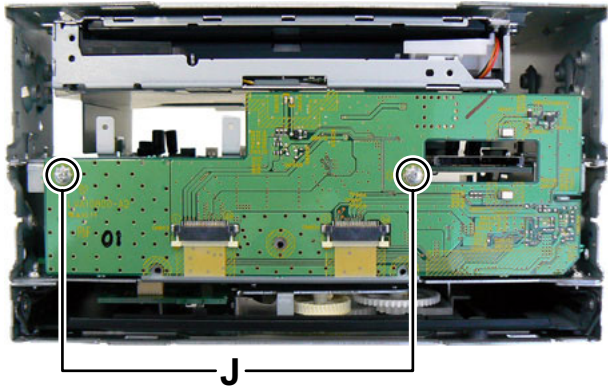

Fig.10
### 3.1.4 Removing the Top chassis (See Fig.10 to 13)
- (1) Remove the two screws J attaching the Front board. (See Fig.10)